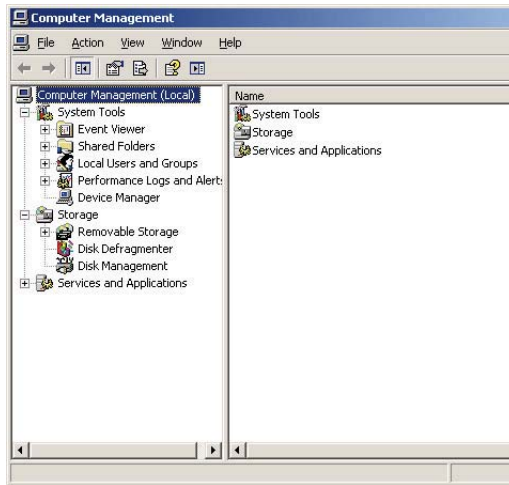

Figure 65: Computer Management screen
1. On your computer's desktop, right-click on the *My Computer* icon and select *Manage*. The *Computer Management* dialog box will be displayed (*Figure 65*).